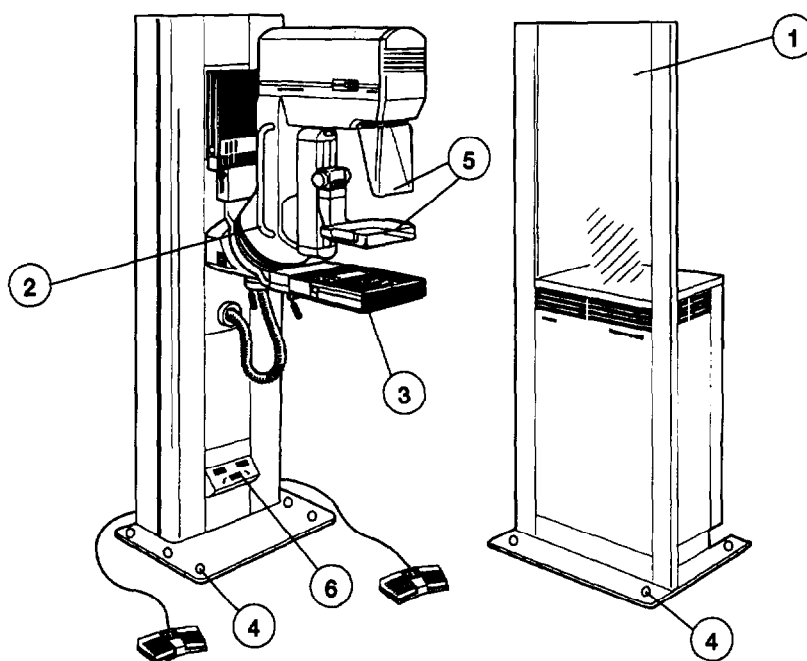

Fig. 1
- Check the radiation protection shield for possible damage(1/Fig.1).
- Check the swivel arm / PPS tube - attachment by pulling on both support rails (minimum play of approximately $\pm 2^\circ$ is correct). (2/Fig.1).
- Check the mounting of the basic table as well as the locking mechanism for the exposure system 3/Fig.1).
- Verify that the system is level with respect to the floor. Check the level screws (4/Fig.1) with a water level and, if available, the floor mounting(optional).
- Check the head guard and compression fixtures for correct seating and for damage (5/Fig.1).